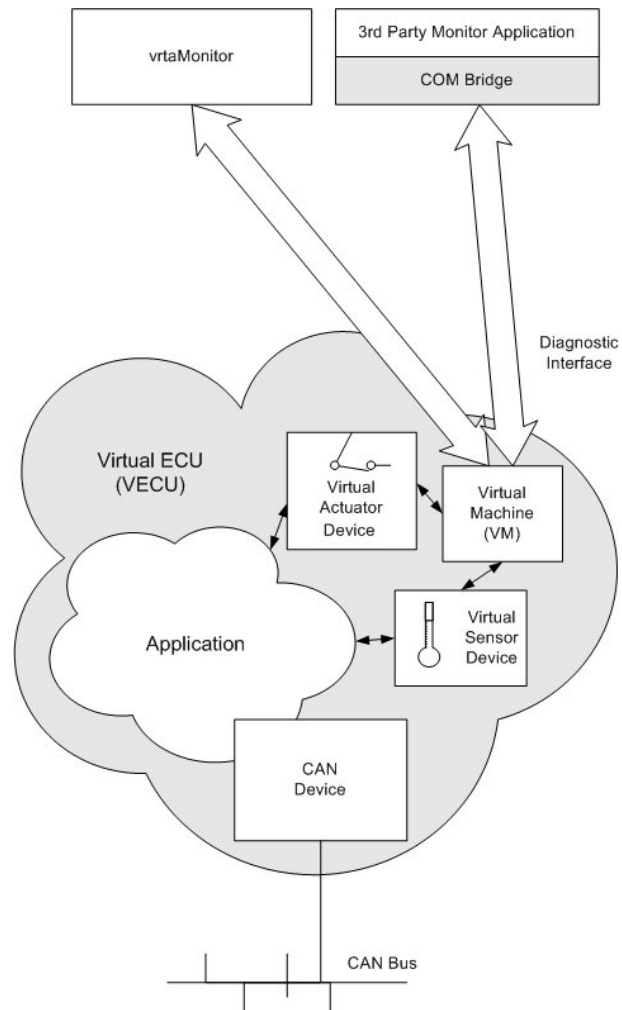

Figure 2.1: Virtual ECU Architecture
The RTA-OS3.0 VRTA port is different. It does not need any real hardware, other than the host PC that you run it on. Instead, you create a Virtual ECU (VECU) in software that simulates the real-life devices such as switches or sensors that will be present in your physical ECU. These devices are built around a core Virtual Machine (VM) that provides services such as the interrupt controller, application control and diagnostic links as shown in Figure 2.1.